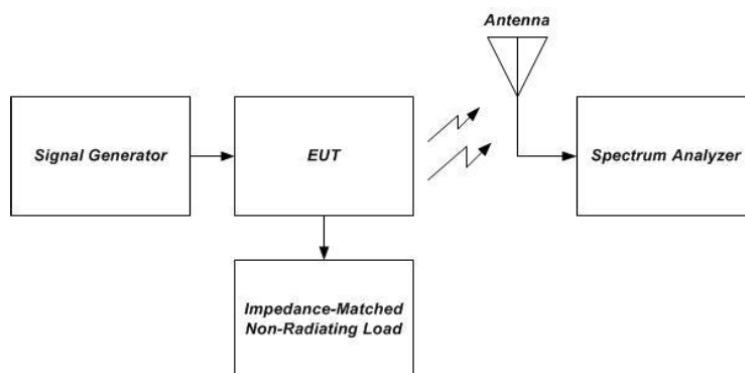

Figure 10 – Radiated spurious emissions test and instrumentation setup
b) Connect the EUT to the test equipment as shown in Figure 10 beginning with the uplink output (donor) port.